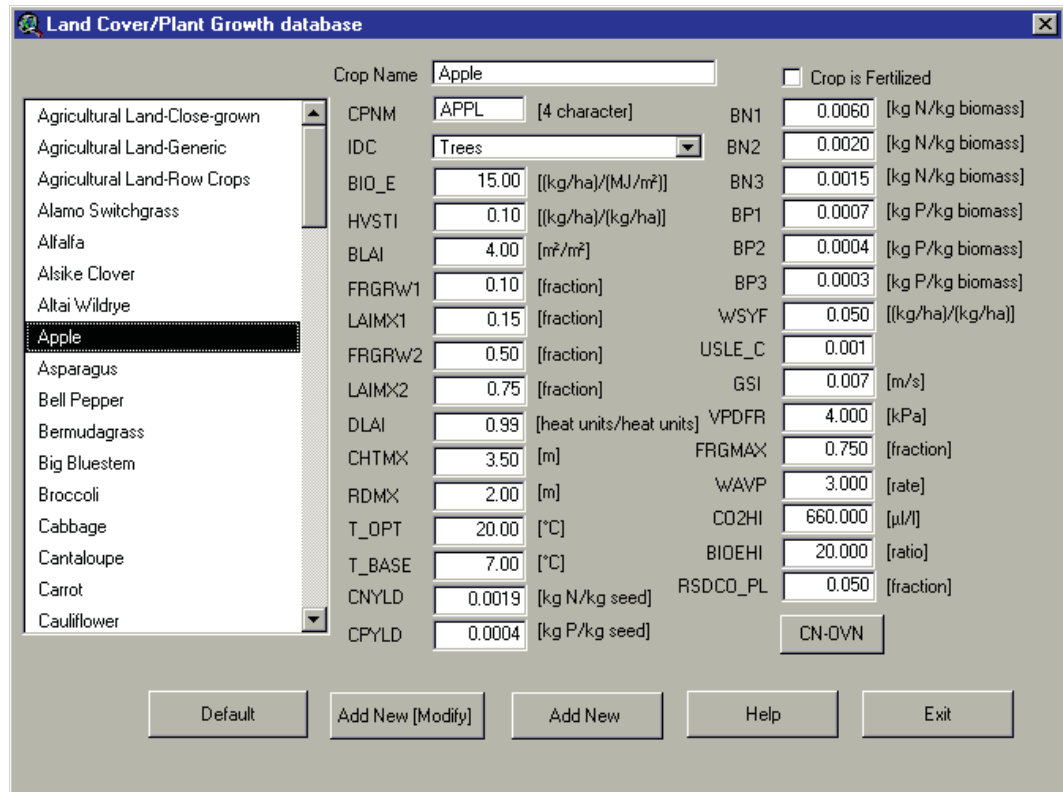

Figure 14.29
- b. The data for the land cover will be displayed (Figures 14.29). A complete description of the parameters is provided in the *Soil and Water Assessment Tool User's Manual, Version 2000, Chapter 14*.